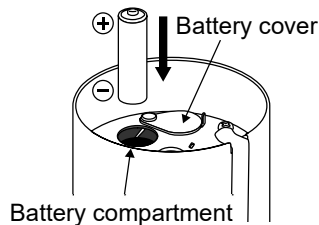

Figure 2
4. Slide the battery cover (on top of cylinder) to open. Insert the AA battery in the battery compartment, the positive pole is upward, and push it down. Slide the battery cover closed to hold the battery in position. (Figure 2)